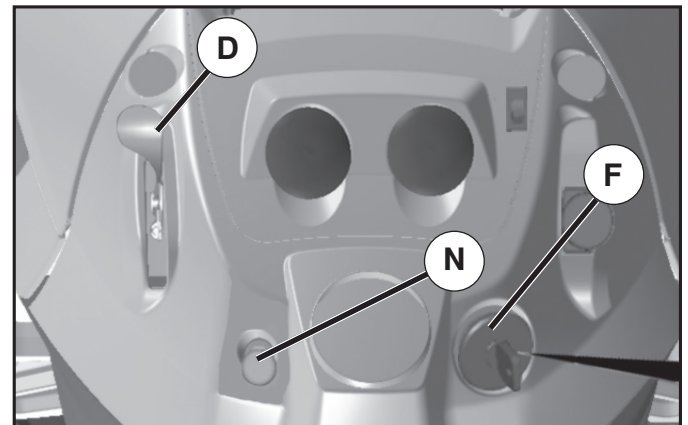

FIG. 6
- Move throttle control (D) between half and full speed (fast) position.
- Turn ignition key (F) to "STOP" position and remove key. Always remove key when leaving tractor to prevent unauthorized use.
### TO USE THROTTLE CONTROL (D) (See Fig. 6)
### TO USE CHOKE CONTROL (N) (See Fig. 6)